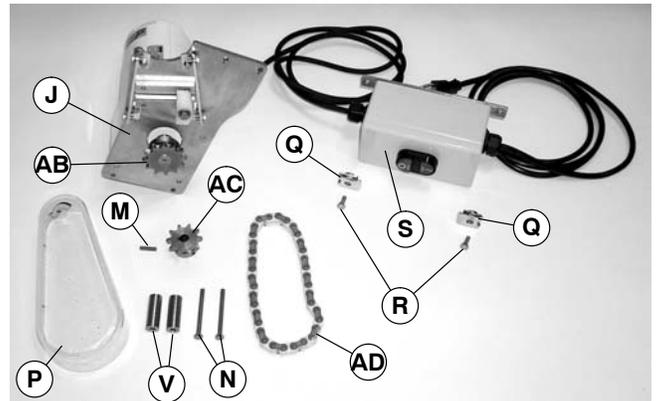

Figure 9
1. Typical components (Figure 9)
NOTE: Figure 9 shows a 7300 Series drive mounting package with a timing chain and single-phase motor starter. Three-phase motor starter or VFD controller is similar. 7200 Series drive mounting package is similar.
NOTE: For a 7300 Series mounting package, install two 1.758" (44.7mm) long spacers (V of Figures 9 and 10) (shipped loose) between mounting plate/gearmotor assembly (J) and conveyor. On a 7200 Series (shown), two 0.438" (11.1mm) long spacers (V) are attached to the mounting plate/gearmotor assembly.
3. Install mounting plate/gearmotor assembly (J) and spacers (see Note) with two screws (N). Tighten screws to 92 in-lb (10.4 Nm).